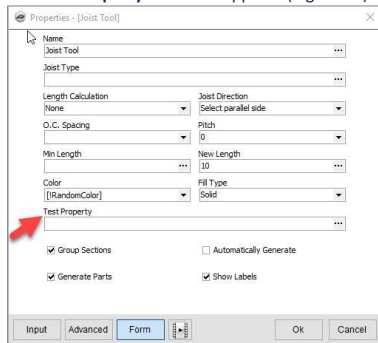
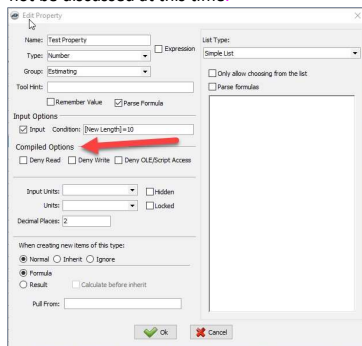

Figure 11
Figure 12
17. The **Test Property** field now appears (Figure 11). If you change and invoke the value to anything but **10**, then the **Test Property** field will disappear.
18. Click on **Advanced** to return to the **Joist Tool Properties** window (Figure 11), and double-click on **Test Property**. The **Compiled Options** are shown in Figure 12 and will not be discussed at this time.